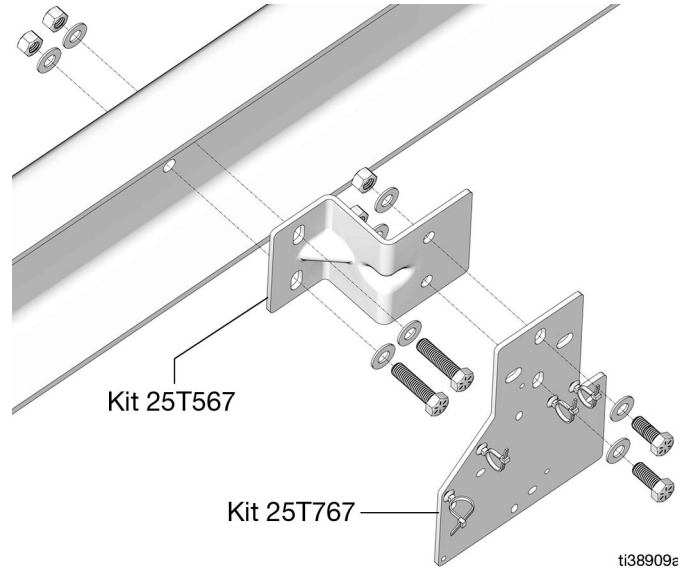

FIG. 8: Inside Truck Frame Mount Installation (Kits 25T567 and 25T767)
- Use mounting brackets to secure the pump directly to either the outside or inside of the lower truck frame. Torque fasteners to 165 ft-lb (223.7 N•m), as shown in FIG. 8 to FIG. 11.